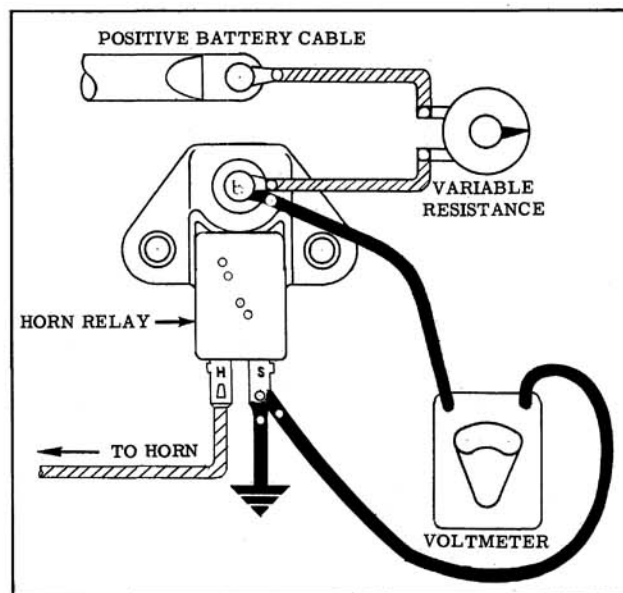

Fig. 13-80 Checking Horn Relay Closing Voltage
- Connect a variable resistance of at least 10 ohms in series between battery cable and "B" terminal. (Fig. 13-80)